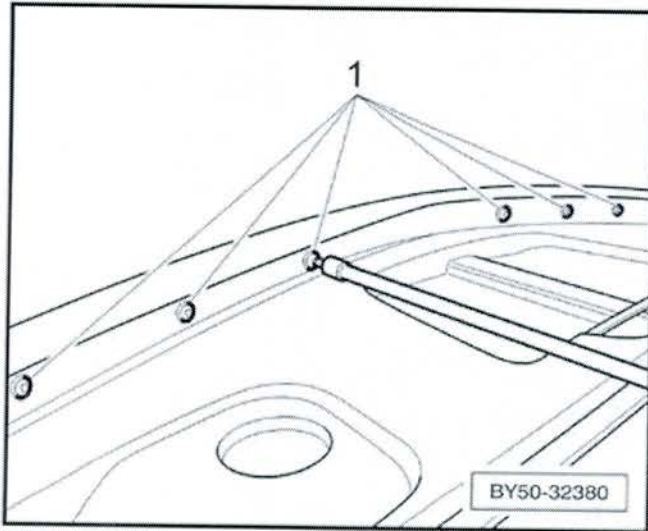

Figure 4
- Remove the fixings securing the top of the radiator shell (see Figure 4)